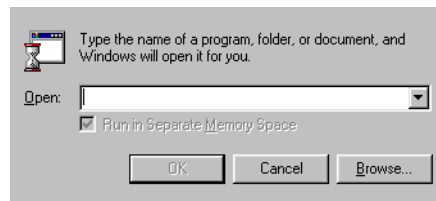

Figure 4-80 Run Dialog Box
5. At the management server Windows 2000 desktop, click *Start* at the left side of the task bar, then select *Run*. The *Run* dialog box (Figure 4-80) appears.